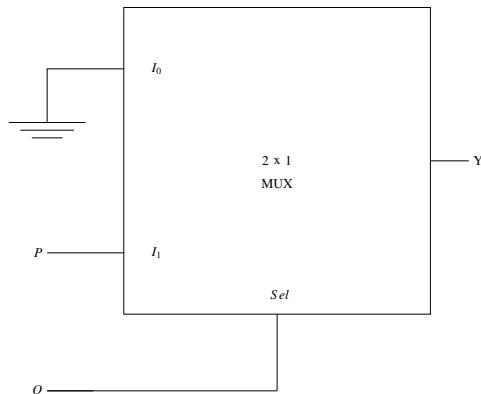

Fig. 3.23
41. In the circuit shown below in Fig. 3.23,  $P$  and  $Q$  are the inputs. The logical function realized by the circuit is \_\_\_\_\_. (GATE EC 2023)